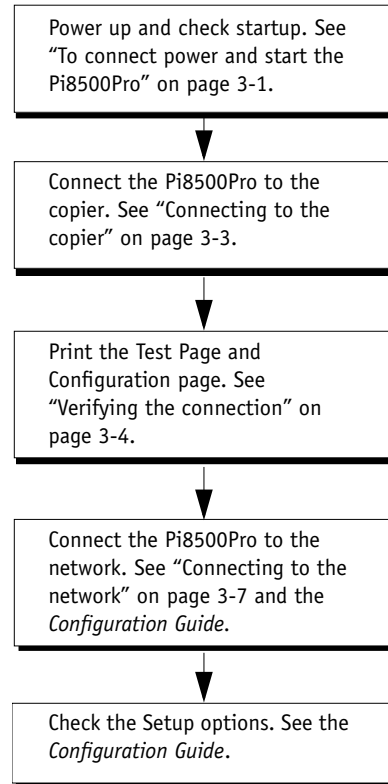

FIGURE 4-11 Pi8500Pro connection verification steps
Before you leave the customer site, make sure you have completed the steps outlined in Figure 4-11. If you are unable to complete a step, determine the reason and rectify the problem before continuing. See Chapter 5, “Troubleshooting,” for more information.
5. **Reassemble the Pi8500Pro (see page 4-13) and verify its functionality (see the connection verification steps described in Figure 4-11 on page 4-15).**